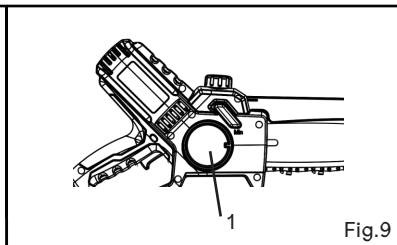

Fig.9
4. Tighten oil cap (1) (Fig.9), firmly for good seal, this will stop oil seepage from tank.